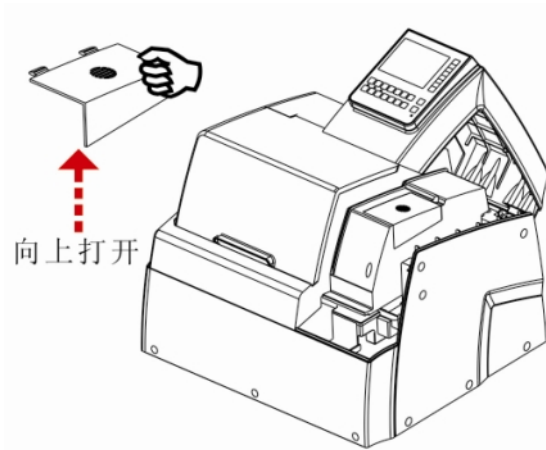

Figure 2, to take down the small plastic cover.
- c. To take down the small plastic cover and take down the screws which are used to fixed head and save them carefully. As figure 2, 3.
- B. To connect the water output pipe as Figure 2 as above.
E. if the head moves to left, then to adjust the left foot higher (turning in clockwise direction, as figure 2)